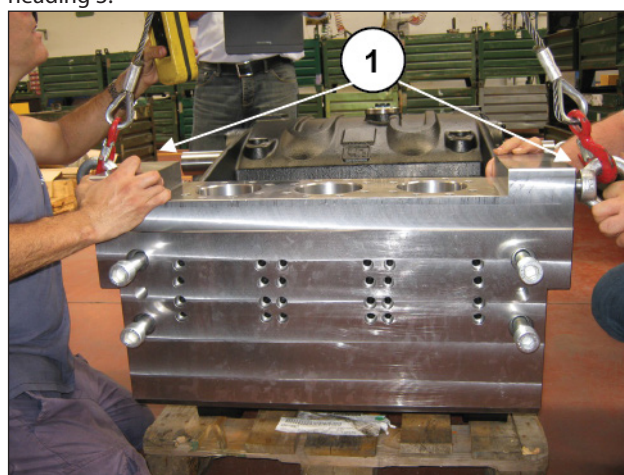
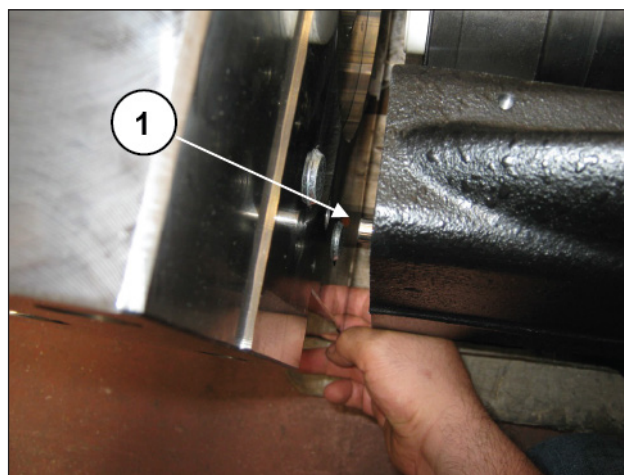

Fig. 192
Fig. 193
Fit two M24 eyebolts in the outlet flange fixing holes (pos. ①, Fig. 192) and then refit the manifold to the front casing, taking care not to damage the locating pins in the casing (pos. ①, Fig. 193) and secure it with the 4 M24 screws.